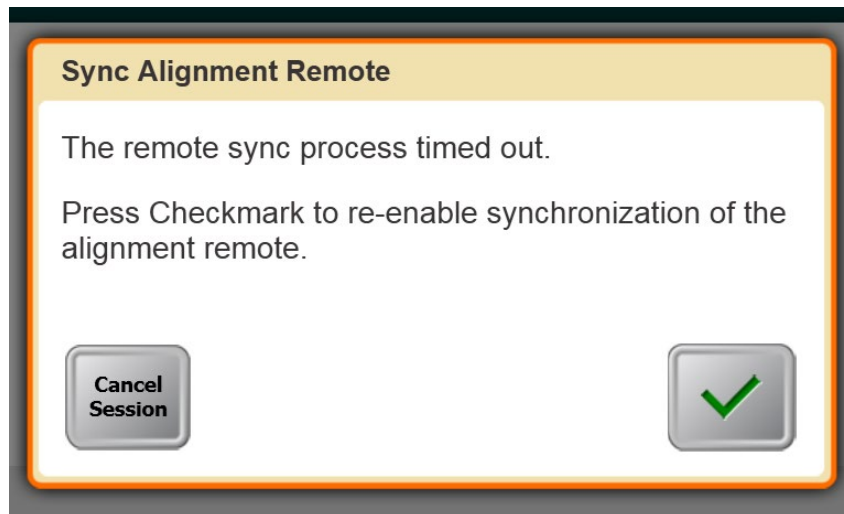

Figure 3-11. Re-enable Remote Sync Process
- If the sync button is not pressed within the allotted 15 seconds or the process is unsuccessful, re-enable the synchronization process by pressing the green checkmark as shown below in Figure 3-11.